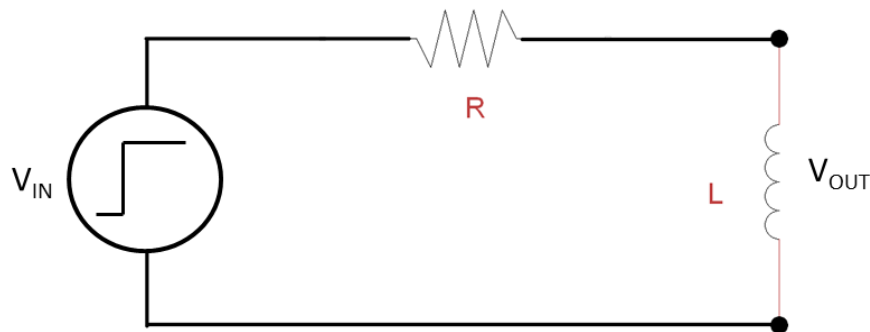

Figure 3: R-L circuit driven by an ideal step Voltage source. V_{IN} can undergo a step change from zero to V_{IN} or from V_{IN} to zero
- B. Calculate the RL time constant of the circuit in figure 3. Where R is 47k and L is 100 mH. Draw a sketch of a graph of the voltage across the inductor in response to a unit step voltage source. Label the time constant on the graph.